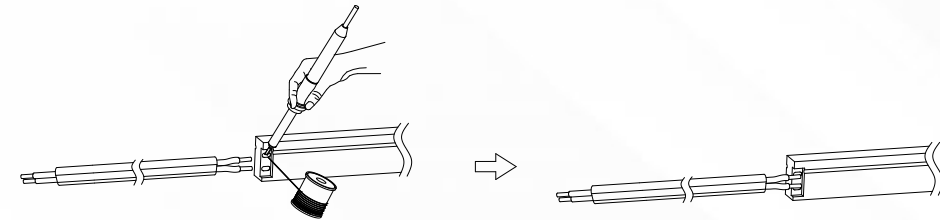

Figure 6
4. Use the soldering iron to solder the wire, as shown in Figure 6.